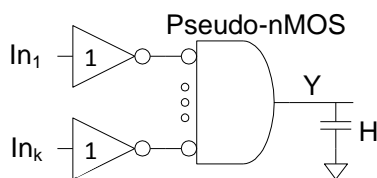

Fig. 2
- Design a 32-input ($k = 32$) AND gate using inverter and pseudo-nMOS NOR gates as shown in Fig. 2. Choose pull-up device size to be $2/3$ and the output loading $H = 128$. (5%)